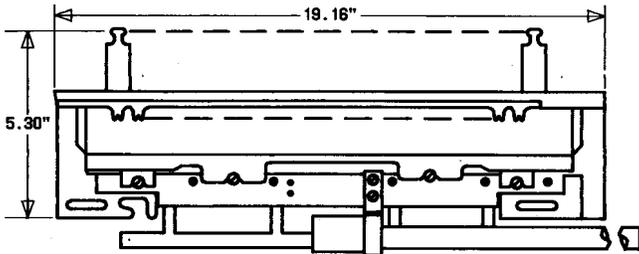

Fig. 22— 302A3-100, B3-50, B3-100, C3-100, D3-100, or E3-100 Connector
**2.14 303A3-100, B3-50, B3-100, C3-100, D3-100 and E3-100:** The 303-type connectors (Fig. 22) consist of a fire retardant plastic connector panel and a light olive gray PVC sheath stub cable. These connectors are equipped with a gas plug. Terminals are located on the front of the panel for termination of cross-connect jumpers by wire wrapping.